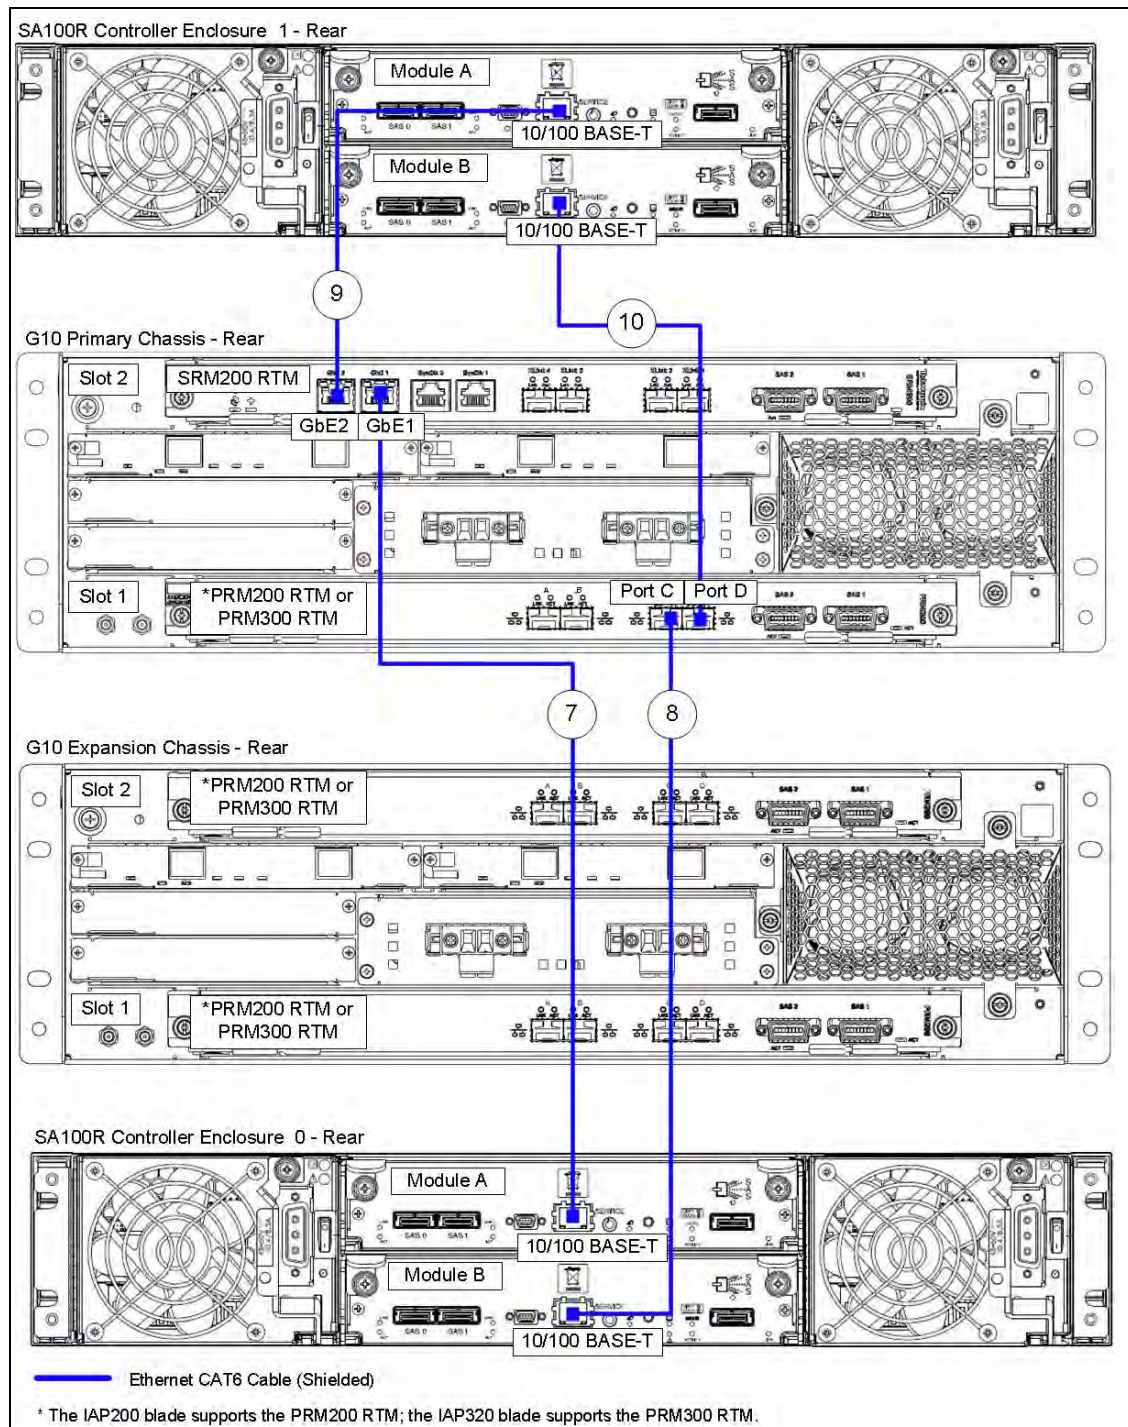

Figure 3.11 - Ethernet Connections - G10 to TWO Controllers ONLY
5. To connect Ethernet to **ONE** controller **ONLY**, perform the following actions. **For Ethernet cabling for TWO controller configurations, refer to Figure 3.11 and Table 3.9.**
- Use Figure 3.11 and Table 3.9 to connect Ethernet cables.